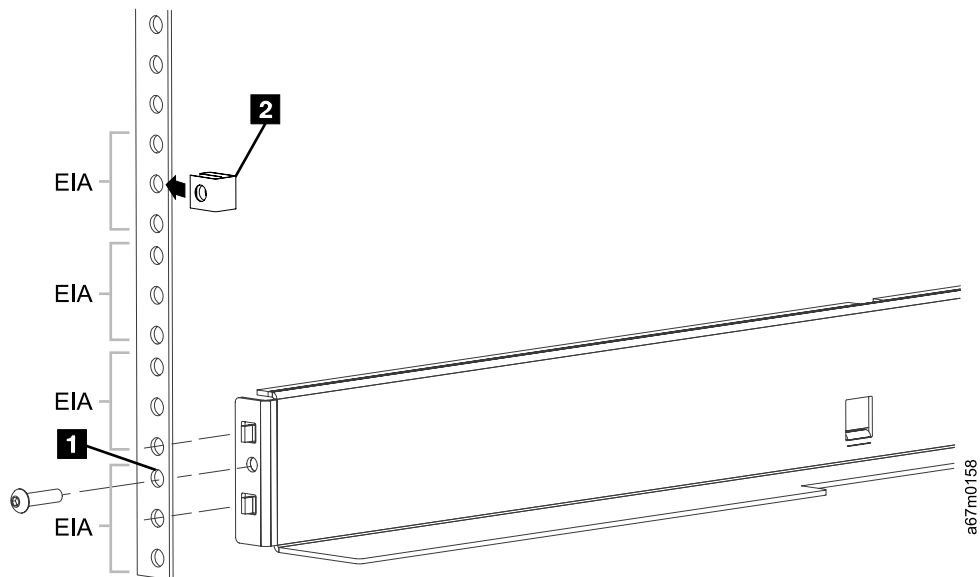

Figure 11. Attaching rails to the front of the rack
- To maintain rack stability, consider the mechanical loading of the rack to ensure a low center of gravity. It is recommended that you install the library in the lowest possible position. The top of the unit should not exceed 30 EIAs in height. Figure 11 on page 24 shows the EIA unit of measurement.
4. Select the EIA on which you want to rest your library. You must select the top most hole (see **1** in Figure 11) for the rails to align evenly with your rack's holes. Insert the front edge of the rail into your rack. Using a #1 Phillips screwdriver, screw the rail to the rack using one M6 X 16 Black Combo/Flange HD Screw (part number 12J5289).
8. Attach a cage nut (either square or round depending on the shape of your rack's holes) into the hole **2** which is **eight** holes above hole **1** in Figure 11 on page 24. A flathead screwdriver may assist you in snapping the cage nuts to your rack. The M6 Cage Nut (Round Hole) has part number 00N8709; the M6 Cage Nut (Square Hole) has part number 12J5288.